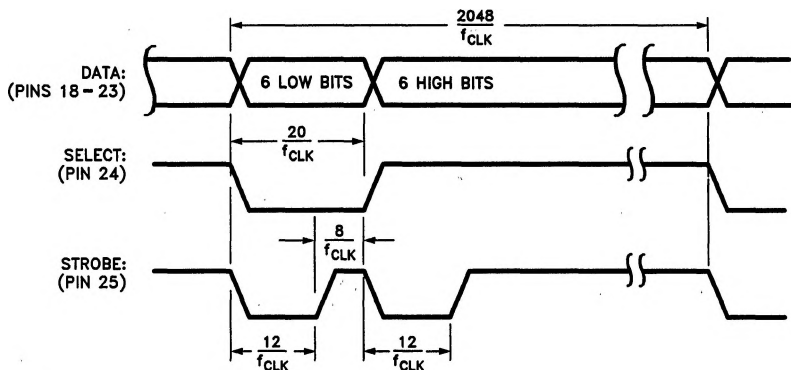
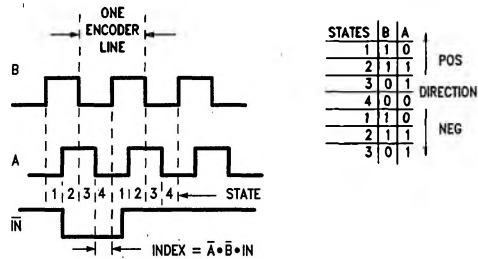

FIGURE 8. 12-Bit Multiplexed Output Timing
FIGURE 9. Quadrature Encoder Signals
**Pin 1 (17), Index ( $\overline{IN}$ ) Input:** Receives optional index pulse from the encoder. Must be tied high if not used. The index position is read when Pins 1, 2, and 3 are low.
**Pins 2 and 3 (18 and 19), Encoder Signal (A, B) Inputs:** Receive the two-phase quadrature signals provided by the incremental encoder. When the motor is rotating in the positive ("forward") direction, the signal at Pin 2 leads the signal at Pin 3 by 90 degrees. Note that the signals at Pins 2 and 3 must remain at each encoder state (See Figure 9) for a minimum of 8 clock periods in order to be recognized. Because of a four-to-one resolution advantage gained by the method of decoding the quadrature encoder signals, this corresponds to a maximum encoder-state capture rate of 1.0 MHz ( $f_{CLK} = 8.0$  MHz) or 750 kHz ( $f_{CLK} = 6.0$  MHz). For other clock frequencies the encoder signals must also remain at each state a minimum of 8 clock periods.
**Pin 12 (5), Chip Select ( $\overline{CS}$ ) Input:** Used to select the LM628 for writing and reading operations.
**Pin 13 (6), Read ( $\overline{RD}$ ) Input:** Used to read status and data.
**Pin 14 (7), Ground (GND):** Power-supply return pin.
**Pin 15 (8), Write ( $\overline{WR}$ ) Input:** Used to write commands and data.
**Pin 16 (9), Port Select ( $\overline{PS}$ ) Input:** Used to select command or data port. Selects command port when low, data port when high. The following modes are controlled by Pin 16:
**Pin 17 (10), Host Interrupt (HI) Output:** This active-high signal alerts the host (via a host interrupt service routine) that an interrupt condition has occurred.
2. LM628 (12-bit output mode): Outputs two, multiplexed 6-bit words. The less-significant word is output first. The MSB is on Pin 18 and the LSB is on Pin 23. Pin 24 is used to demultiplex the words; Pin 24 is low for the less-significant word. The positive-going edge of the signal on Pin 25 is used to strobe the output data. Figure 8 shows the timing of the multiplexed signals.
and an index pulse input. The quadrature signals are used to keep track of the absolute position of the motor. Each time a logic transition occurs at one of the quadrature inputs, the LM628 internal position register is incremented or decremented accordingly. This provides four times the resolution over the number of lines provided by the encoder. See *Figure 9*. Each of the encoder signal inputs is synchronized with the LM628 clock.
The above position, velocity, and acceleration values must be converted to binary codes to be loaded into the LM628. The values shown for velocity and acceleration must be multiplied by 65,536 (as shown) to adjust for the required integer/fractional format of the input data. Note that after scaling the velocity and acceleration values, literal fractional data cannot be loaded; the data must be rounded and converted to binary. The factor of four increase in system resolution is due to the method used to decode the quadrature encoder signals, see *Figure 9*.
The LM628 DAC output port can be configured to provide either a latched eight-bit parallel output or a multiplexed 12-bit output. The 8-bit output can be directly connected to a flow-through (non-input-latching) D/A converter; the 12-bit output can be easily demultiplexed using an external 6-bit latch and an input-latching 12-bit D/A converter. The DAC output data is offset-binary coded; the 8-bit code for zero is 80 hex and the 12-bit code for zero is 800 hex. Values less than these cause a negative torque to be applied to the motor and, conversely, larger values cause positive motor torque. The LM628, when configured for 12-bit output, provides signals which control the demultiplexing process. See *Figure 8* for details.